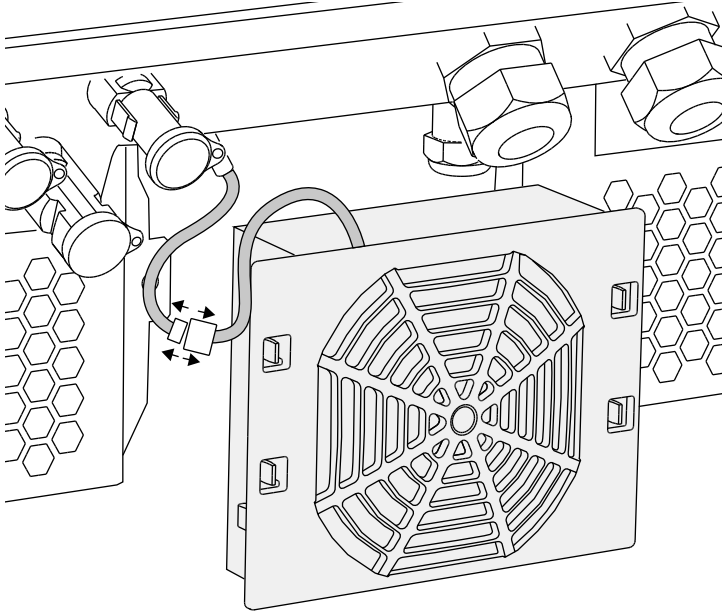

Fig. 73: Pull out fan cable
4. Completely remove the fan unit from the housing. To do this, disconnect the plug of the fan cable. ↗ **Fig. 73**